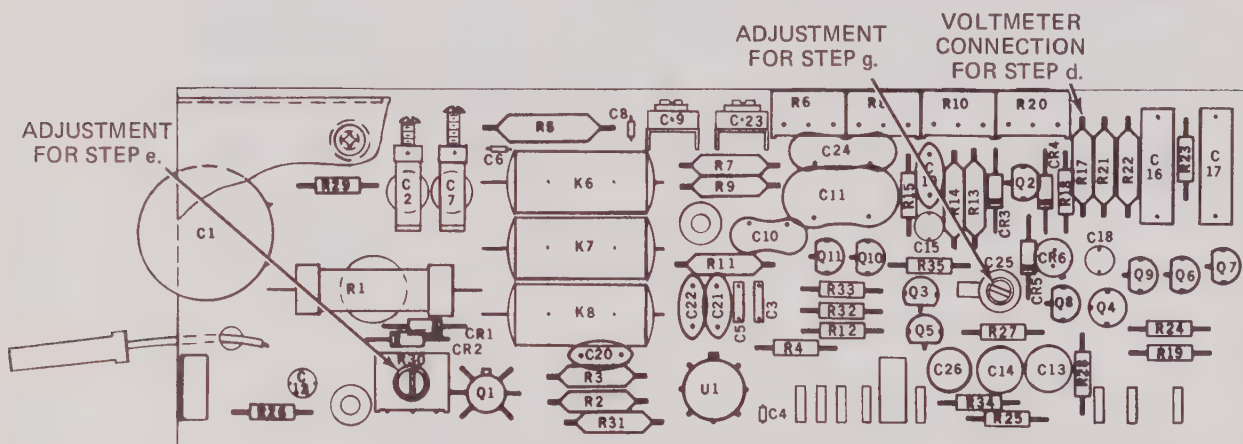

Figure 3. CONVERTER ADJUSTMENT LOCATIONS
- d. Connect a voltmeter so that the low input connects to the INPUT Ω SENSE LO terminal and the high input connects to the top of R17 on the ac converter. Refer to Figure 3. The voltmeter should indicate a voltage between 20 mV DC and 35 mV DC.
- e. If the voltmeter in step d does not indicate 20 to 35 mV DC, remove the ohms converter from the instrument and adjust R30 on the ac converter to obtain a voltmeter reading of approximately 30 mV DC. Refer to Figure 3.
*Remove the guard cover and Ohms Converter. Reapply power for five minutes before adjusting C25 (see Figure 3) to obtain the tolerance limits.